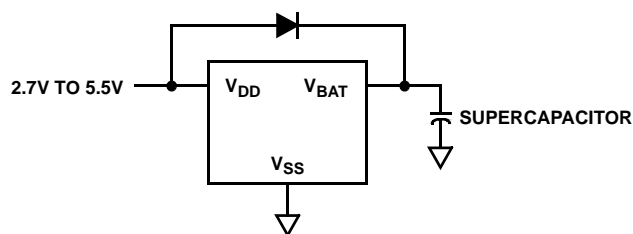

FIGURE 28. SUPERCAPACITOR CHARGING CIRCUIT
- Mode C - In this mode the selection bits indicate a low V_{DD} switchover combined with no communications in battery backup. Operation is actually identical to Mode A with I²C communications down to $V_{DD} = V_{RESET}$, then no communications (see Figure 28).